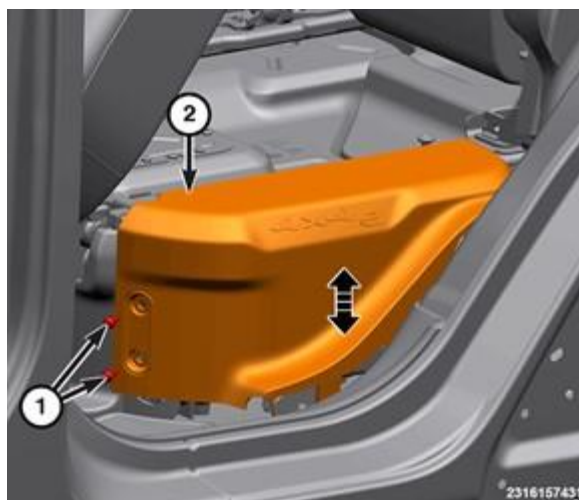

Figure 17 – HV Battery Side Trim
25. Remove the fasteners (1) from the side high voltage battery trim panels (2) (Figure 17).
63. Install the high voltage trim panel and press downward to seat the retainers (Figure 17).